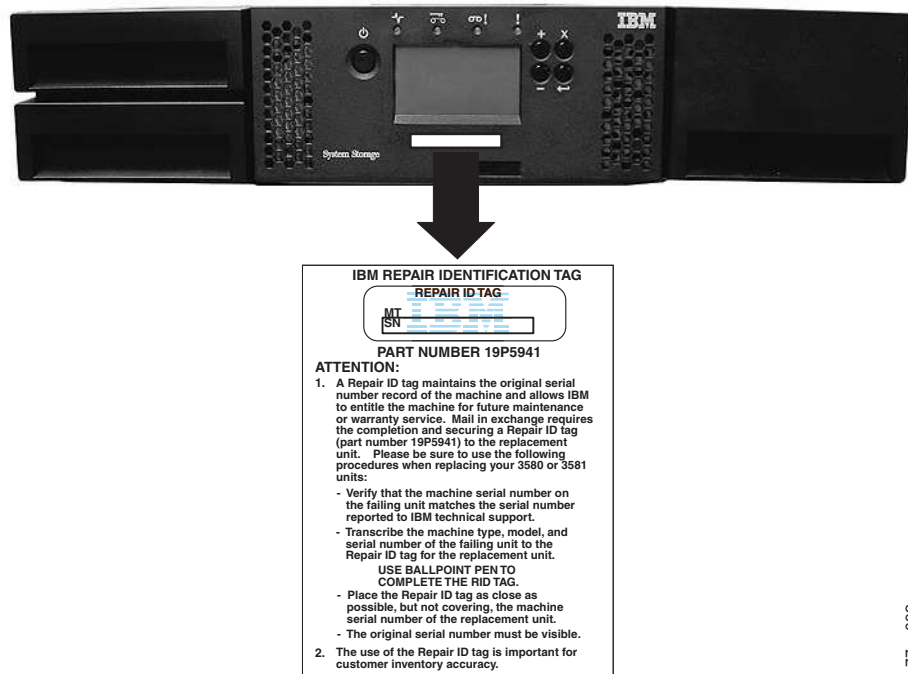

Figure 185. Proper placement of the Repair Identification (RID) Tag
- b. Apply the tag to the front of the new replacement library enclosure (as shown in Figure 185)